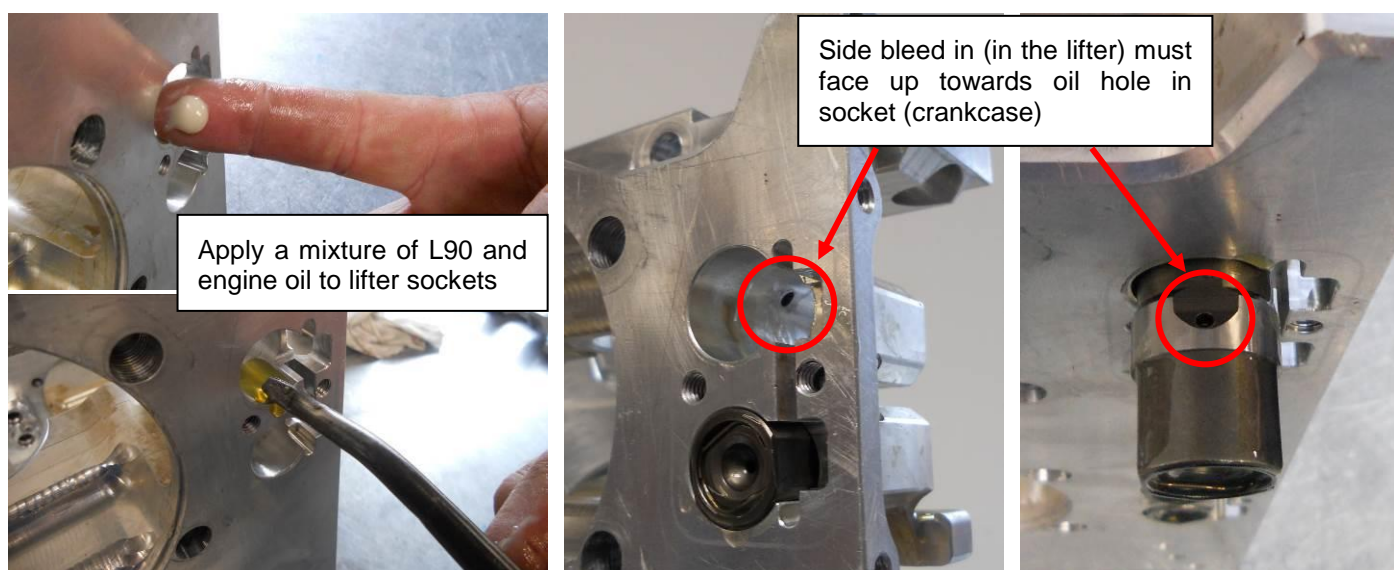

Figure 23 - Roller hydraulic lifter installation
- Ensure the lifter retainer plates are installed orientating the lifter correctly as previously described (shown in Figure 23).